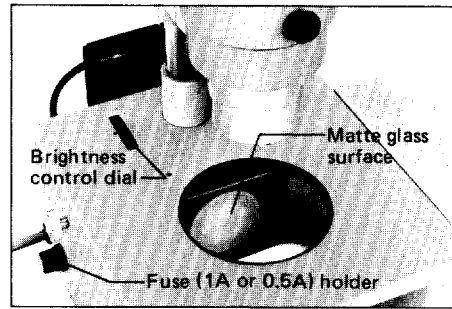

Fig. 7
- ① Turn the brightness control dial (including power switch) on the diascopic illuminator stand to switch on the lamp.
- ② Viewing the matte glass surface through the stage glass, rotate the lamp lateral centering screw to center the illuminating light to the matte glass frame. For vertical centering, after releasing the socket sleeve clamp screw, rotate the lamp vertical centering ring. Rotation of the condenser moving lever will change the illuminated area. (Refer to Fig. 7 & 8)
- ③ Rotating the mirror change-over knob, select the concave or plane surface: the concave side for lower magnifications or photomicrography, and the plane for higher magnifications requiring more brightness.